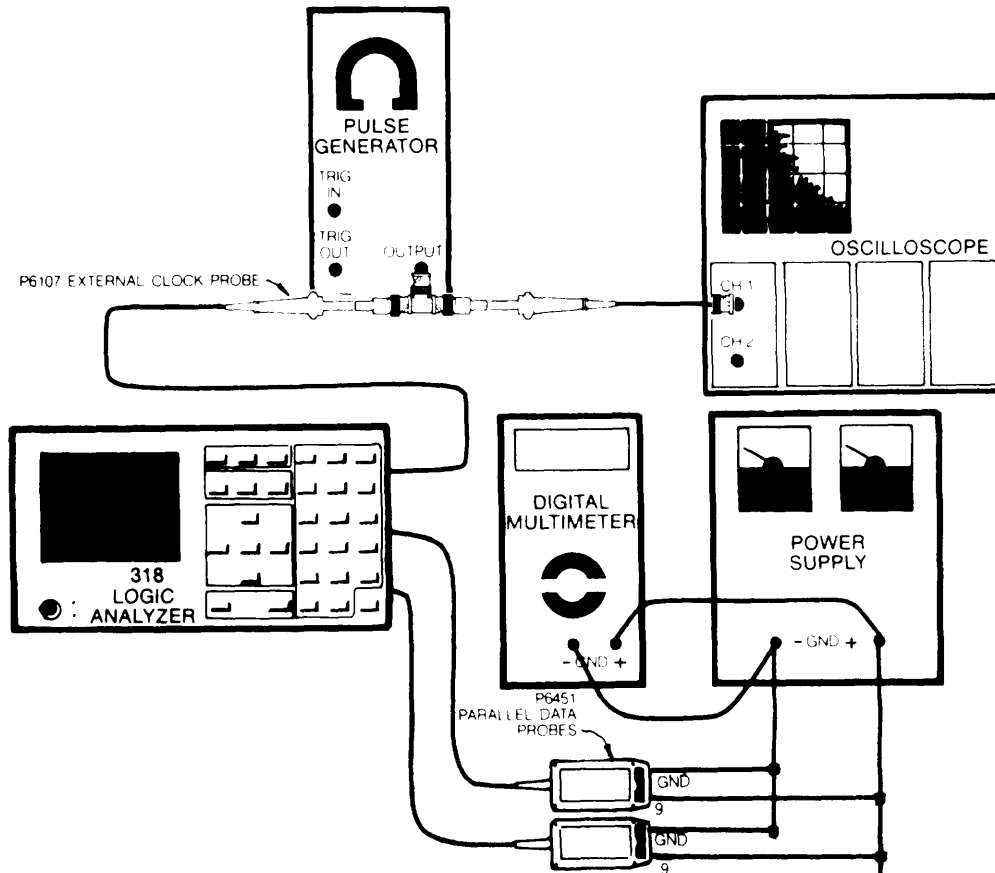

Figure 5-27. Threshold voltage check setup.
- a. Install the P6107 EXT CLK Probe and both P6451 Parallel Data Probes in the 318. Connect a BNC T-connector to the pulse generator OUTPUT. Connect the P6107 External Clock probe tip to one side of the BNC T-connector. Refer to Figure 5-27.